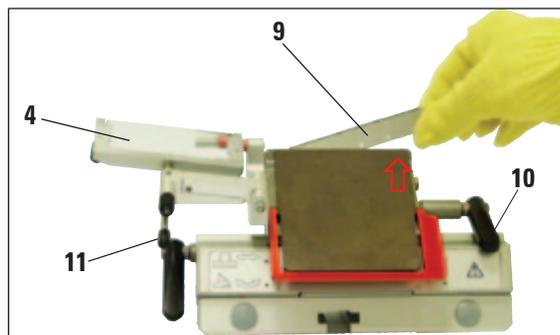

Fig. 3
1. Fold the anti-roll system (4) to the left – while doing so, hold the lever (11) (not the adjusting screw of the anti-roll system) so that the height of the anti-roll system remains unchanged (Fig. 3).
2. Open the clamping lever (10) by turning it counterclockwise (Fig. 3).
3. Carefully insert the blade (9) from above or from the side between the pressure plate and the insert for low-profile blades. Make sure that the blade is inserted so that it is centered and lies evenly on the edge (see red arrow in Fig. 3).